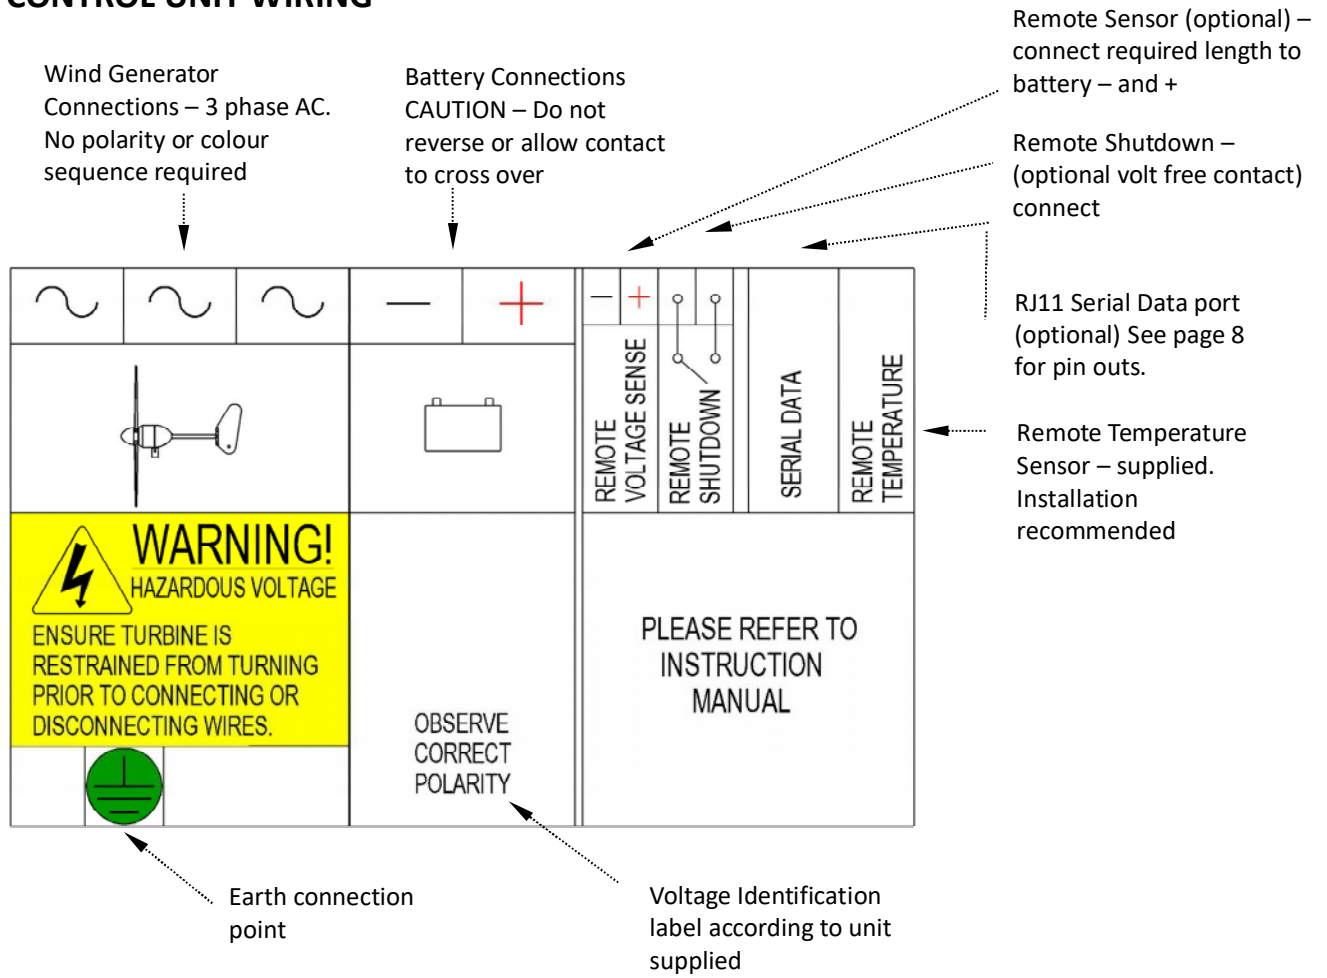

Fig 10. 12v, 24v & 48v Control Unit Connections Label
- Make the connections following Figs. 10 and 11. Note that some connections are optional. **It is vital to observe correct polarity when connecting the battery cables otherwise serious damage will result.**